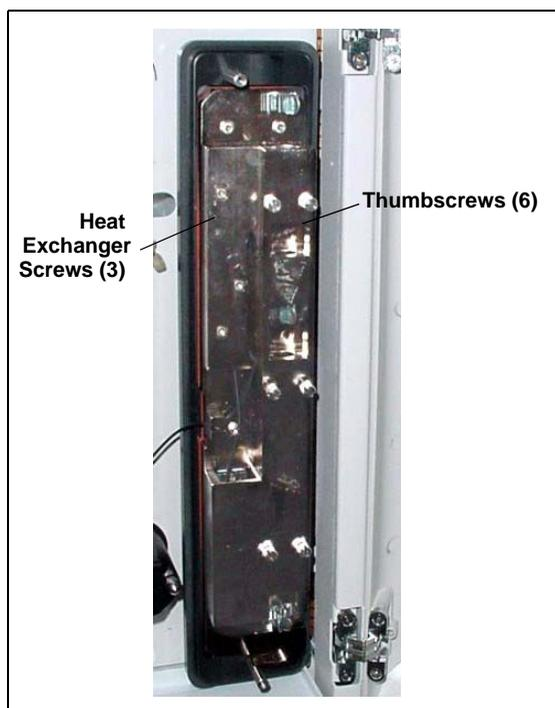

Figure 5-21. ICS-1500 Column Heater Cover Removed
5. Unscrew the six thumbscrews on the top metal plate (see Figure 5-21) and remove the plate.